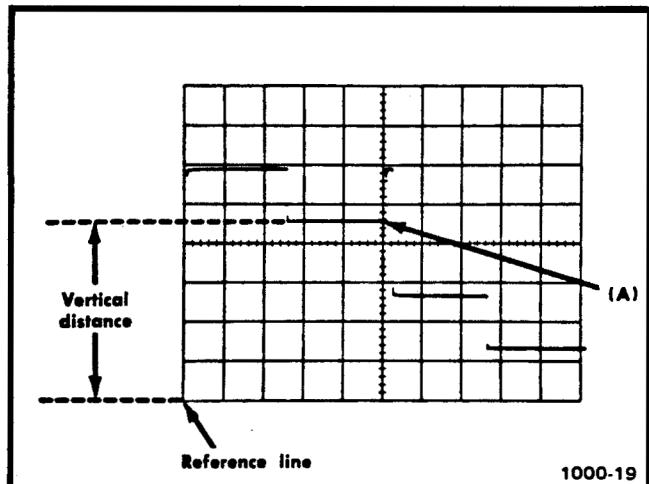

Fig. 2-4. Measuring Instantaneous dc voltage with respect to a reference voltage.
- Measure the distance in divisions between the reference line and the point on the waveform at which the dc level is to be measured. For example, in Fig. 2-4 the measurement is made between the reference line and point A.